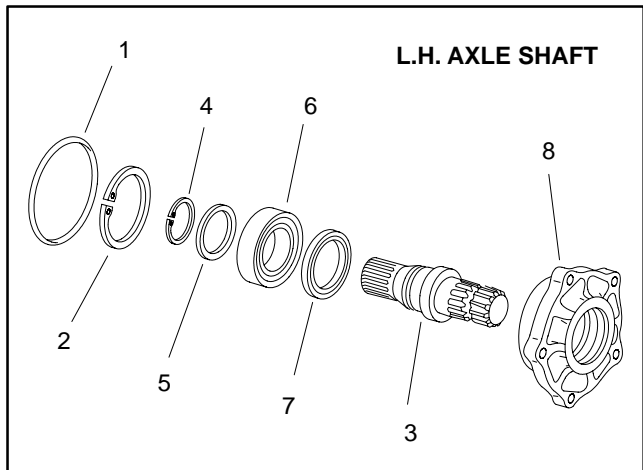

Figure 69
2. Assemble differential carrier (L.H. axle shaft) assembly (Fig. 69):
A. Apply multi-purpose grease on new oil seal (item 7) and install seal into differential carrier (item 8).
B. Use a press to install bearing (item 6) onto L.H. axle shaft (item 3).
C. Install washer (item 5) and retaining ring (item 4) onto L.H. axle shaft. Make sure that retaining ring is fully seated in axle groove.
E. Install retaining ring (item 2) into groove in carrier. Make sure that retaining ring is fully seated in carrier groove.
F. Apply multi-purpose grease onto O-ring (item 1) and install O-ring onto carrier.
3. Assemble R.H. axle shaft (Fig. 69):
A. Apply multi-purpose grease on oil seal (item 5) and install seal into seal cover (item 7).
B. Use a press to install bearing (item 4) onto R.H. axle shaft.
C. Install washer (item 3) and retaining ring (item 2) onto R.H. axle shaft. Make sure that retaining ring is fully seated in axle groove.
D. Insert washer (item 6) into seal cover.